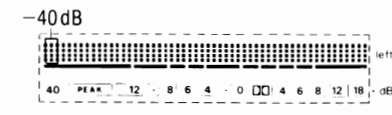

Fig. 20
6. At this time, check that -40dB indicator is dimmed (intermediate brightness between full brightness and light-out: See fig. 20).